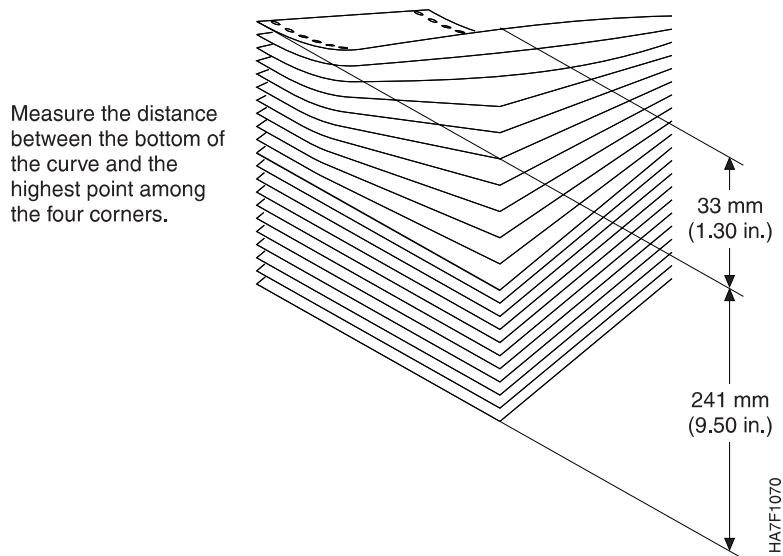

Figure 7. Dishing Effects for Processed Forms
Figure 7 on page 31 shows the method for measuring dishing for processed forms. Dishing should not exceed 0.137 times the stack height. For example:
- Heat from the high-temperature fusing station causes uneven shrinking of the form and distorts the shape of the stack (as shown in Figure 7).